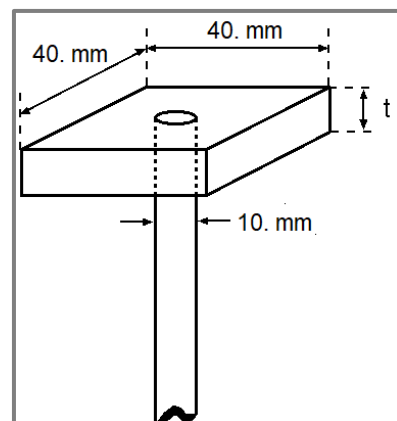

Figure 2
- a. The load will be applied downward, from below, by means of a 40. mm square plate (see **Figure 2**). The thickness of the plate will be less than 13. mm and will have a 10. mm diameter threaded rod eyebolt attached from below at its center with a standard hex nut. The plate will be horizontal with two sides parallel to the longitudinal axis of the bridge.